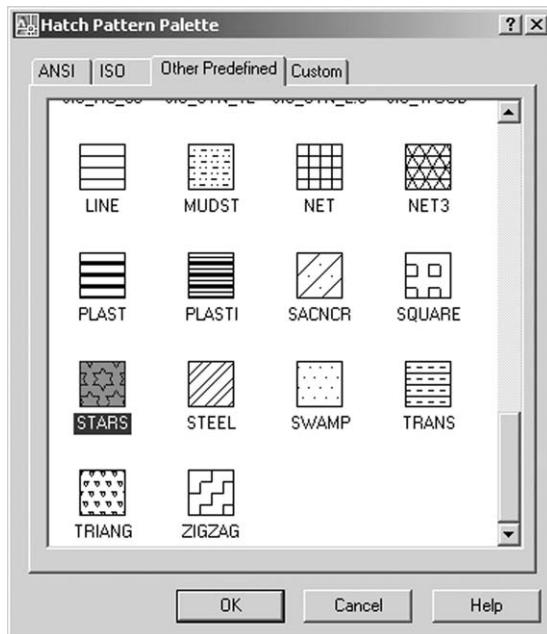

Figure 18.5 The Hatch Pattern Palette dialogue box with STARS selected.
- 3 pick STARS (Figure 18.5) then OK